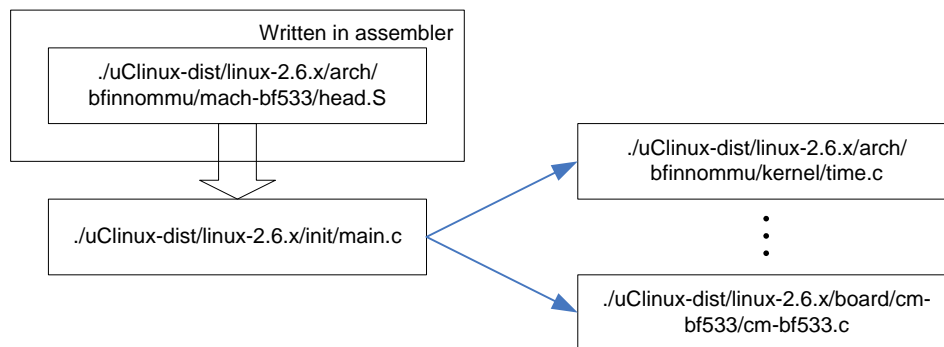

Figure 5.4 Files included in the uClinux boot process
As shown in Figure 5.4 the first file called is head.S. This file, written in assembler, does some basic initializations, afterwards the function start_kernel is called. The function start_kernel can be found in main.c, already written in C language. The architecture independent function start_kernel tries to bring up the system. Therefore a lot of other functions are called. One of the first called functions is setup_arch. As the name already says, this function does a lot of architecture specific initializations. Furthermore some early messages like “Blackfin support (C) 2004 Analog Devices, Inc.” are printed on the console. ATTENTION: This messages will be buffered, this means that they are not printed